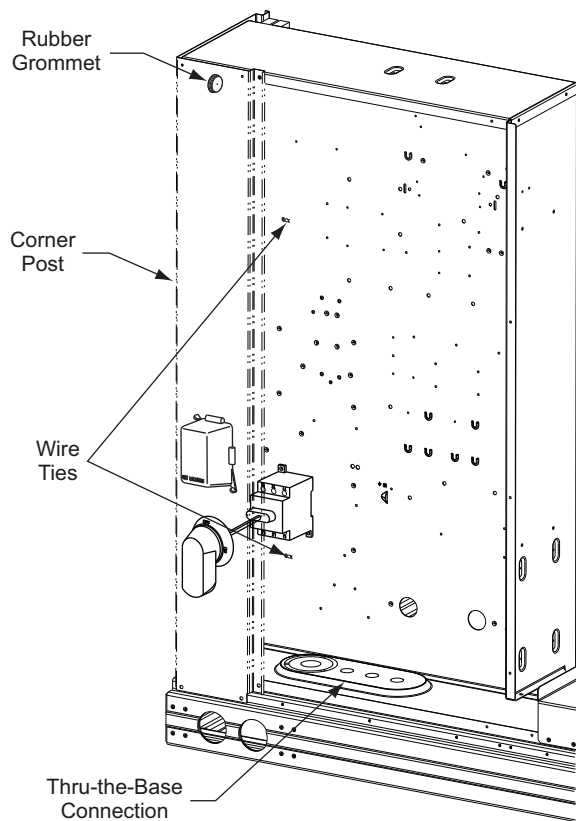

Fig. 48 — Wire Ties for Low Voltage Wiring
All low-voltage wiring should be routed through the provided wire ties (see Fig. 48) down the left side of the control box or secured to the unit control box with an electrical conduit in order to provide UL-required clearance between high-voltage and low voltage wiring.
Correctly rated low voltage wire can be routed through the rubber grommet located on the corner post adjacent to the control box access panel. Route wire through the grommet and then route the wire behind the corner post utilizing the factory provided wire ties secured to the control box. This will ensure separation of the field low voltage wire and the high voltage circuit. Route the low voltage wire to the unit control board. See Fig. 48.
2. Feed wires through the raceway built into the corner post (see Fig. 48) to the 24 v barrier located on the left side of the control box. The raceway provides the UL-required clearance between high-voltage and low-voltage wiring.